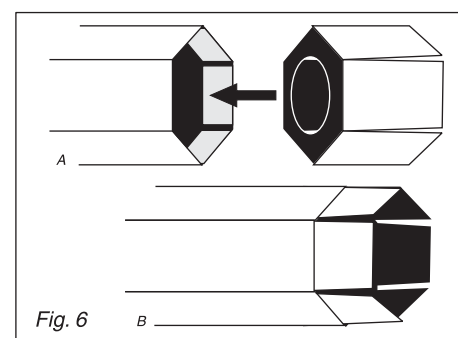

Fig. 6
Step 11: Remove the circular cutout from the connecting piece of the main tube's internal tube [C5], bend the six tabs forwards and colour the back of the white hexagon black. Then push the connecting piece into the end of the main tube's internal tube that has the grey glue markings on the border inside. Push it in with the hexagon first, but only so far that the tabs remain half protruding. Glue the tabs of the connecting piece firmly in this position. Press well and allow enough time to dry (see Fig. 6).